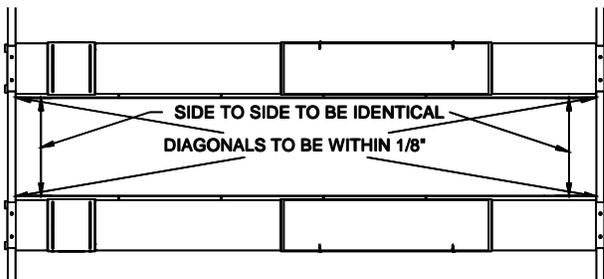

Fig 7 – Final Runway Positioning
- 14) Check the layout of the lift in the bay. (**This is the last opportunity to reposition the lift.**) Adjust the position of the runways so the distance from power side jack rail to idler side jack rail is the same at the front and the rear and the diagonal measurements from the front tip of one rail to rear tip of the opposite rail are within 1/4", **Fig 7.**